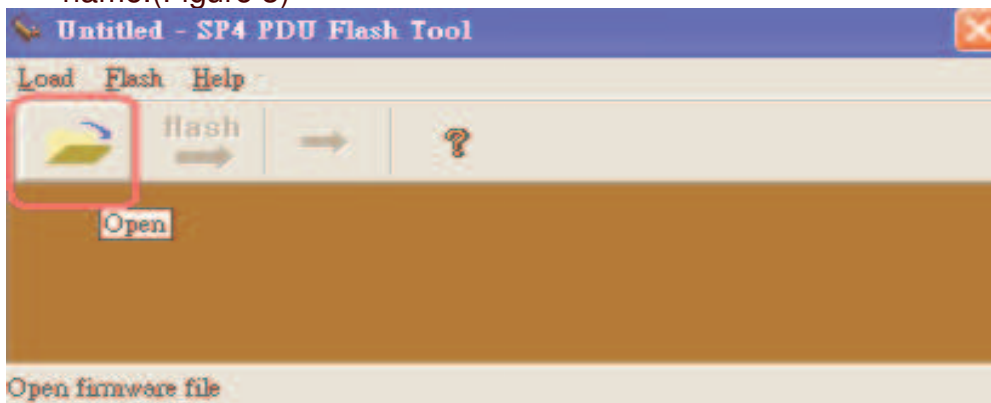
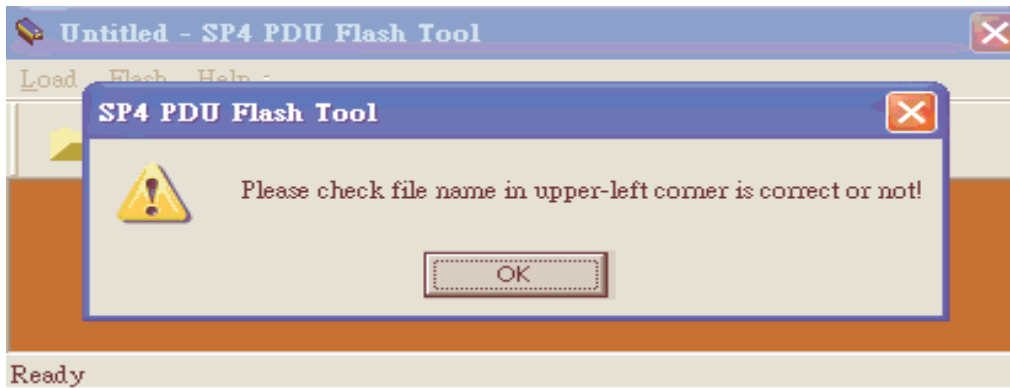

Figure 2. Open button.
Figure 3
Step 4. Choose “Load\Open” in the menu or press the button in the toolbar (as Figure 2) to load the *.mot which you want to flash into the SP6 PDU. After loading *.mot, you will see the message to remind you to check the file name.(Figure 3)